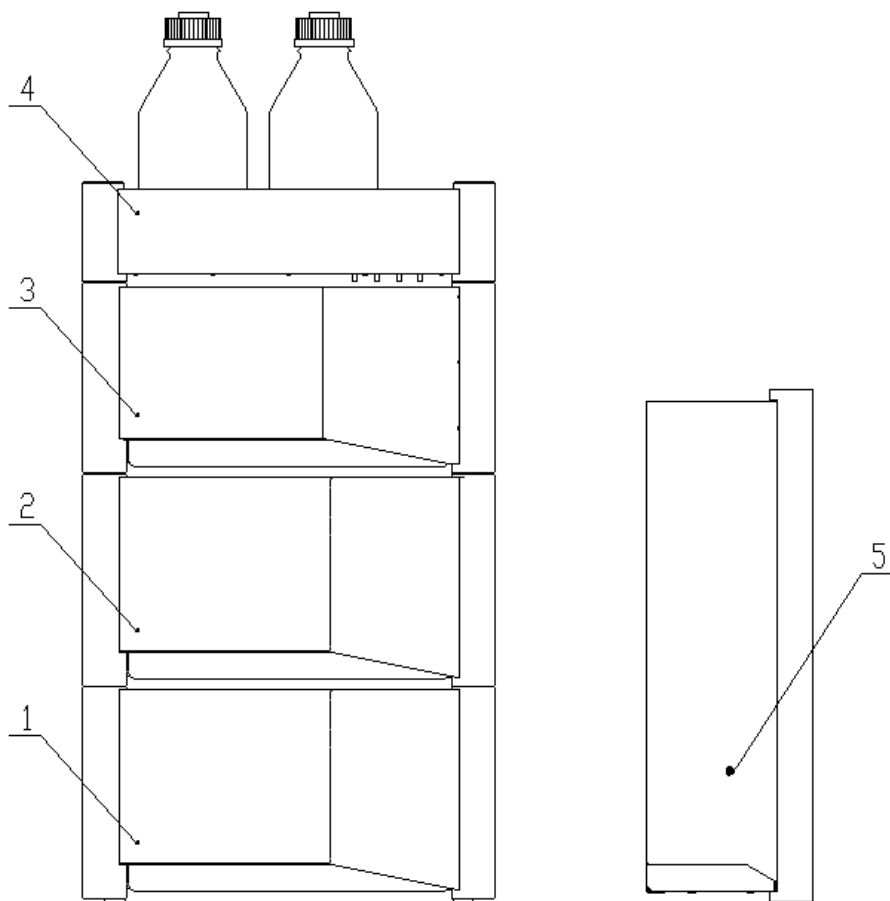

Fig. 2-1 Recommended Stack Configuration for EClassical 3200 HPLC
To ensure optimum performance of the detector, the following configuration is recommended as Fig. 2-1.
- 1) Lay the detector as Fig. 2-1 and 2-2.